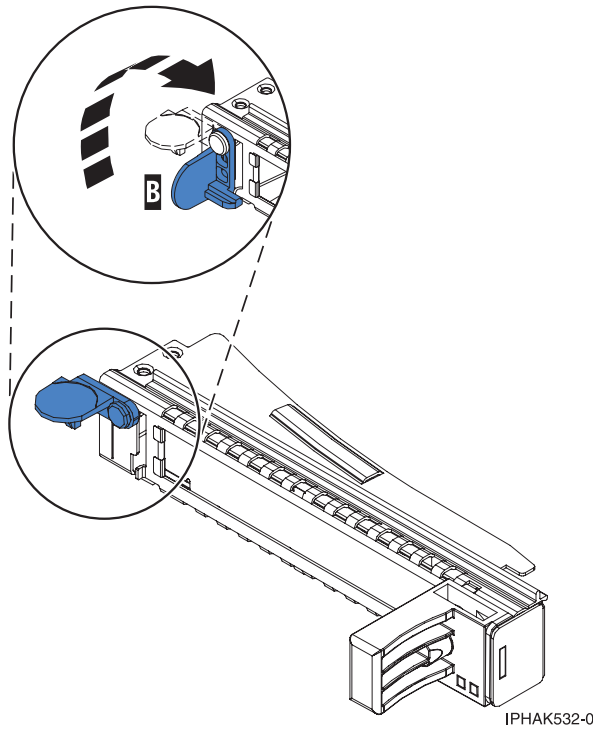

Figure 37. Opening the tailstock clamp
- a. To unlock the filler tailstock, rotate the latch (**B**) at the tailstock end of the cassette as shown in Figure 37 on page 34.